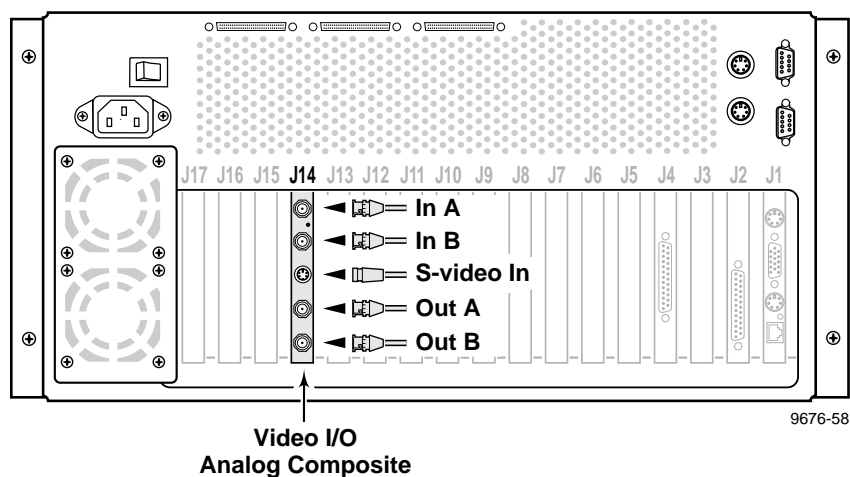

Figure 2-11. Analog Composite I/O Cable Connections
The Profile Video File Server may include one or more an Analog Composite Video In/Output boards. Figure 2-11 shows analog composite video cable connections for a typical location, slot J14. Refer to the rear panel labels or Tables 1-2 through 1-6 in Chapter 1, pages 1-8 through 1-12, to determine the slot location of this board in your system.
The Analog Composite I/O board accepts two composite analog video inputs, and provides two composite analog video outputs. The board is also equipped with an S-Video connector, which allows video input to the Profile system directly from a source such as a video cassette recorder. However, the S-Video device takes the place of one of the inputs (either In A or In B). The board provides time base correction for any one input. If the Analog Composite Video I/O board is installed, refer to Figure 2-11 for an example and:
2. Connect analog composite input and output cables to the Analog Composite I/O board. See Figure 2-11 for an example.